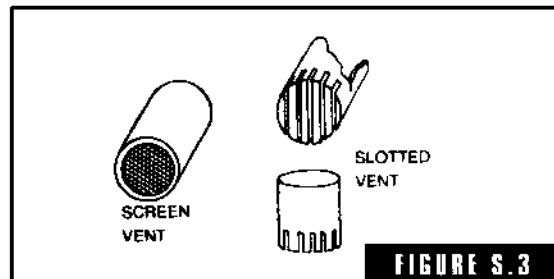

FIGURE S.3
**screen core box vents** Round screen vents used in a core box which is blown (Fig. S-3). The vents exhaust the air in the box from the blow. When slotted instead of screened, they are called *slot vents*.